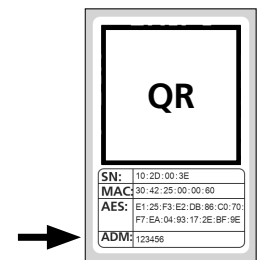

Fig. 4
- ! **Attention:** The set comes with two QR code stickers, one for the cylinder and one for the keypad. You can identify the QR code required here for the cylinder by the administrator code at the bottom of the sticker, marked "ADM" (Fig. 4).